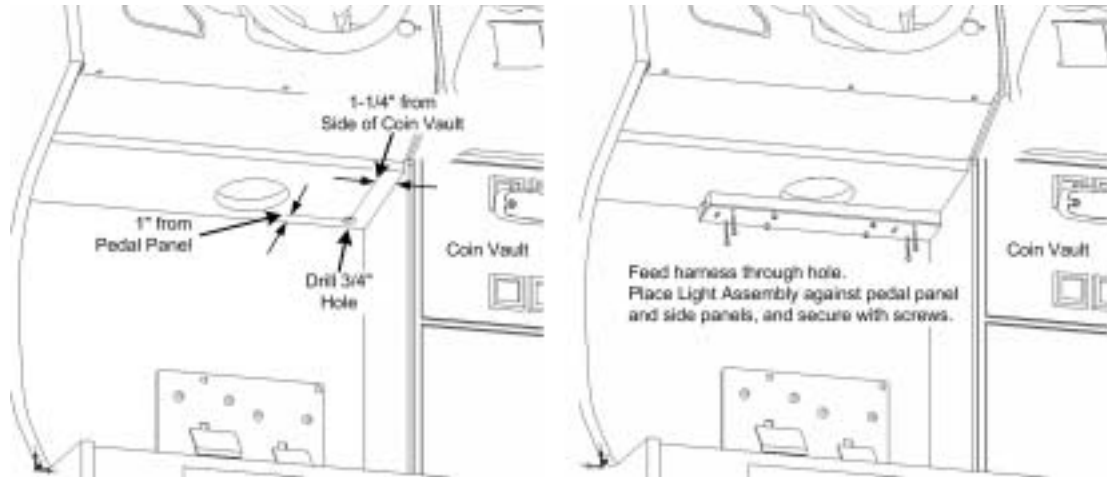

Figure 1. Light Placement on Standard (27" Monitor) Cabinets
- Standard Cabinets (27" Monitor): 1" from the pedal panel, and 1-1/4" from the wall of the coin vault (see Figure 1).
- Standard Cabinets (27" Monitor): Against the pedal panel and the wall of the coin vault, with the harness running through the hole that you drilled (see Figure 1).